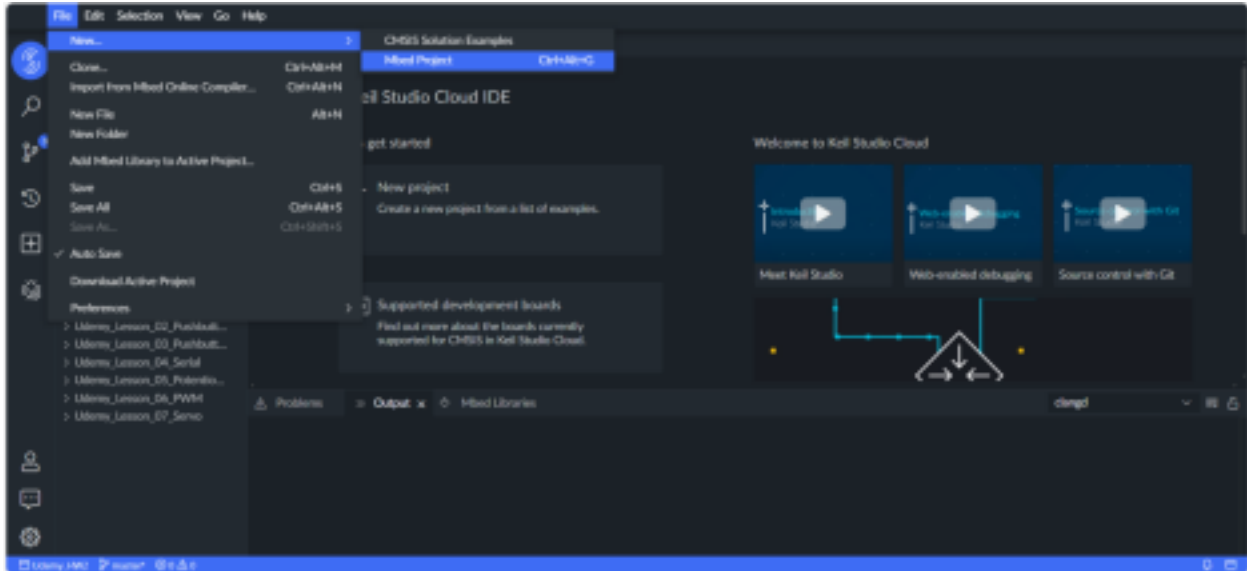

Figure 9
3. After you log in and enter the IDE interface, create a new Mbed project by clicking File -> New... -> Mbed Project, as shown in Figure 9.